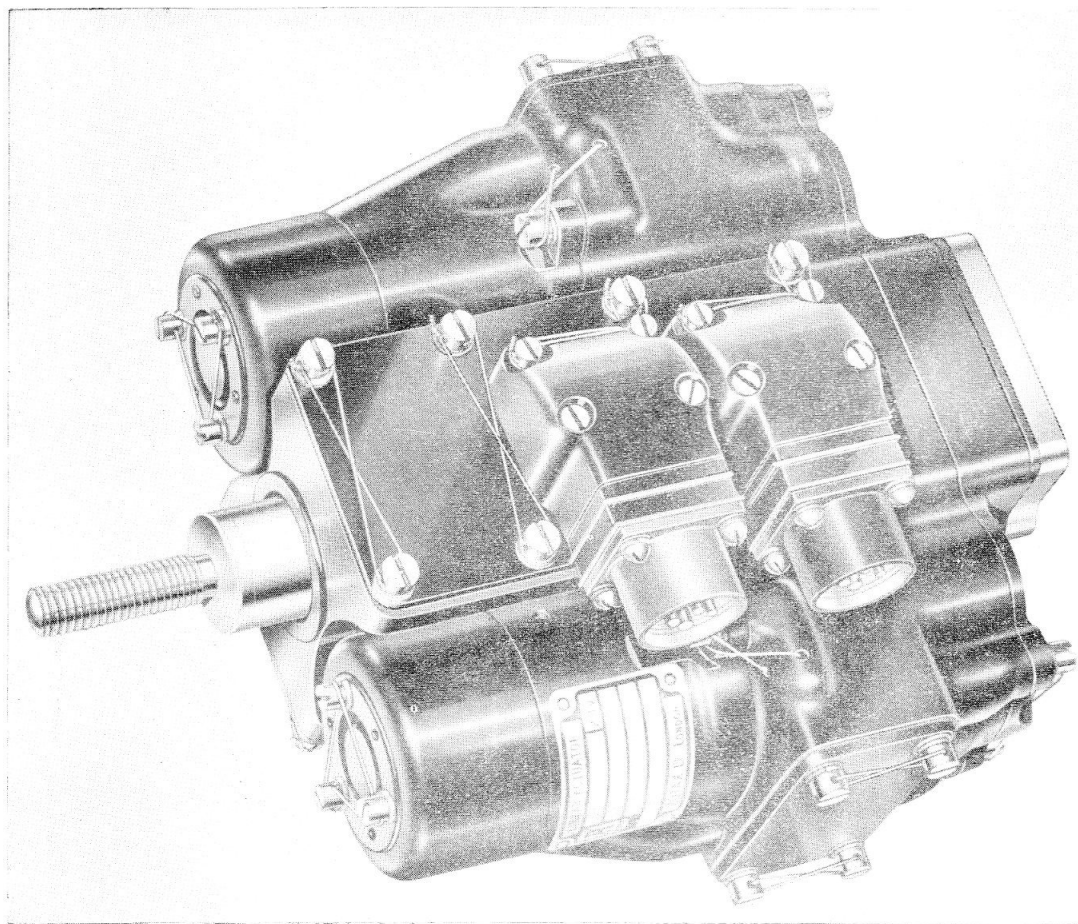

Fig. 1. Actuator, typical of A1700 series
2. The various types forming the A1700 series (*fig. 1*) are of the same general construction and differences between any one type and the basic type are normally confined to the amount and speed of ram travel. In external appearance, however, the position of the supply plugs may vary, being in either one of two positions, to suit the re-